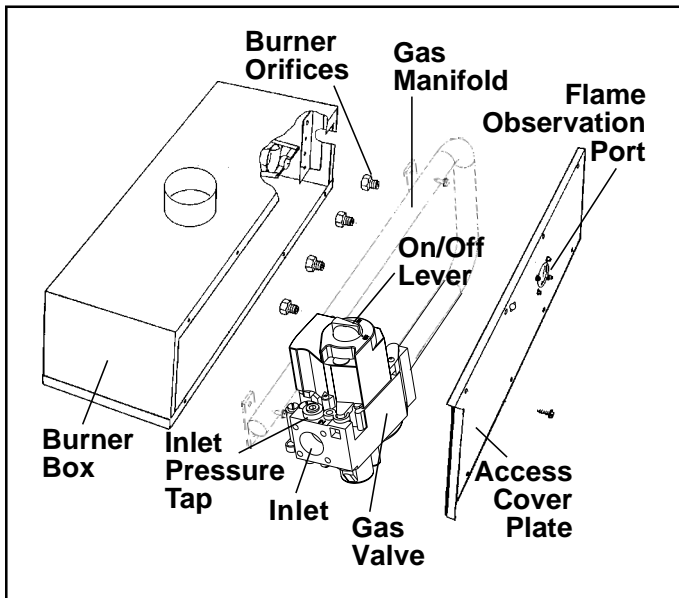

Figure 23. Typical Installation For Sealed Burner Box With Access Cover Plate
1. Remove the four (4) fasteners that secure the gas manifold to the burner box, as shown in Figure 23. Carefully remove the gas manifold assembly from the burner box. Note that the gas manifold assembly consists of the gas valve, the gas manifold, and the orifices.
2. Carefully remove the burner orifices from the gas manifold, as shown in Figure 23.